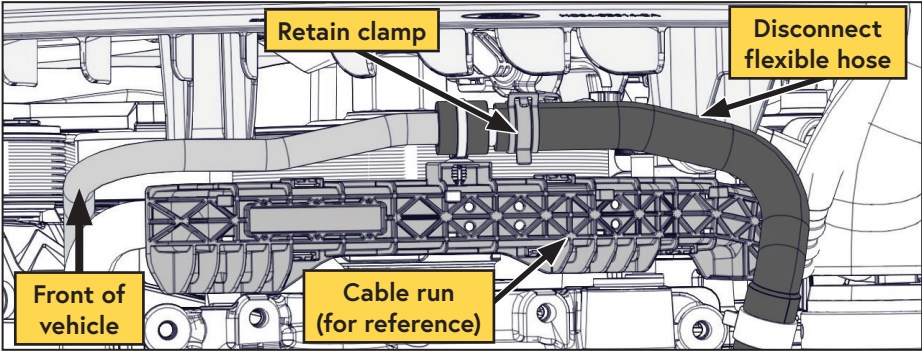

Figure 35 — Disconnect the heater return hose
- Disconnect the small flexible hose secured to the cable run tray on the front of the engine, above the steering linkage, from the metal coolant tube. Retain the OEM spring clamp (Figure 35).